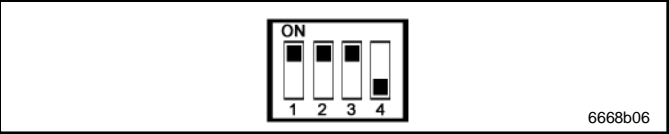

Fig. 20 DIP switch – configuration mode
- Set the DIP switches (see view Fig. 2, page 6) as shown in Fig. 20: